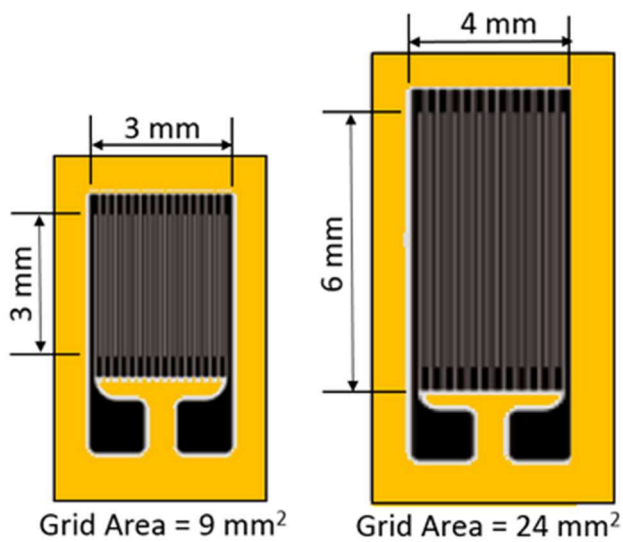

Figure 4: A larger grid area dissipates heat faster.
- Gauge Area – Use a gauge with a higher grid area to reduce thermal effects on the strain data. A larger grid area dissipates heat faster (*Figure 4*).